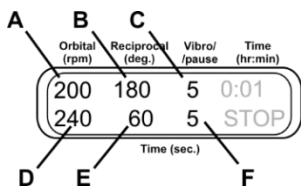
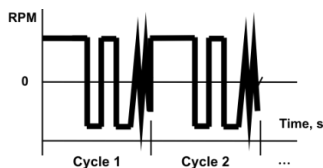

Figure 7.
Figure 8.
- 6.9.2 **Orbital + Reciprocal + Vibro motion.** Set the speed (fig. 7/A, 20–250 rpm) and time (fig. 7/D, 1–250 s) of Orbital motion. Set the amplitude (fig. 7/B, 0–360°) and time (fig. 7/E, 1–250 s) for Reciprocal motion. It is performed at the same speed as the Orbital motion (fig. 8). Set the amplitude (fig. 7/C, 0–5°) and time (fig. 7/F, 1–5 s) for Vibro motion.